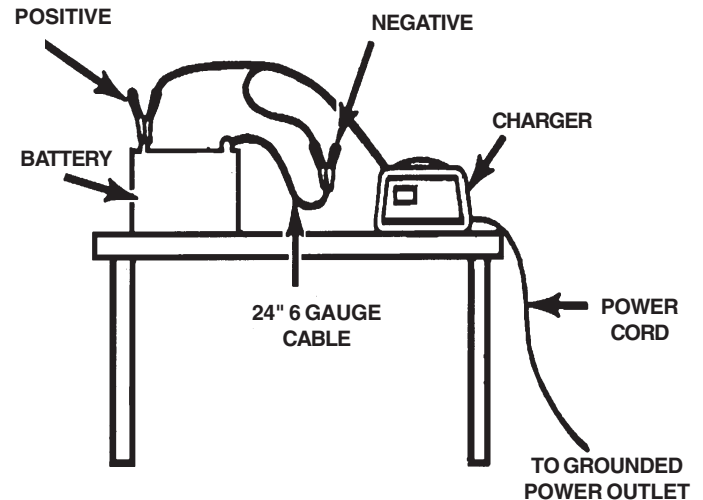

FIGURE 3: CONNECT NEGATIVE BATTERY CLIP TO 24 INCH CABLE END
- ungrounded post of battery. Connect POSITIVE (RED) clip to vehicle chassis or engine block away from battery. Do not connect clamp to carburetor, fuel lines, or sheet-metal body parts. Connect to a heavy gage metal part of the frame or engine block. (Figure 3)